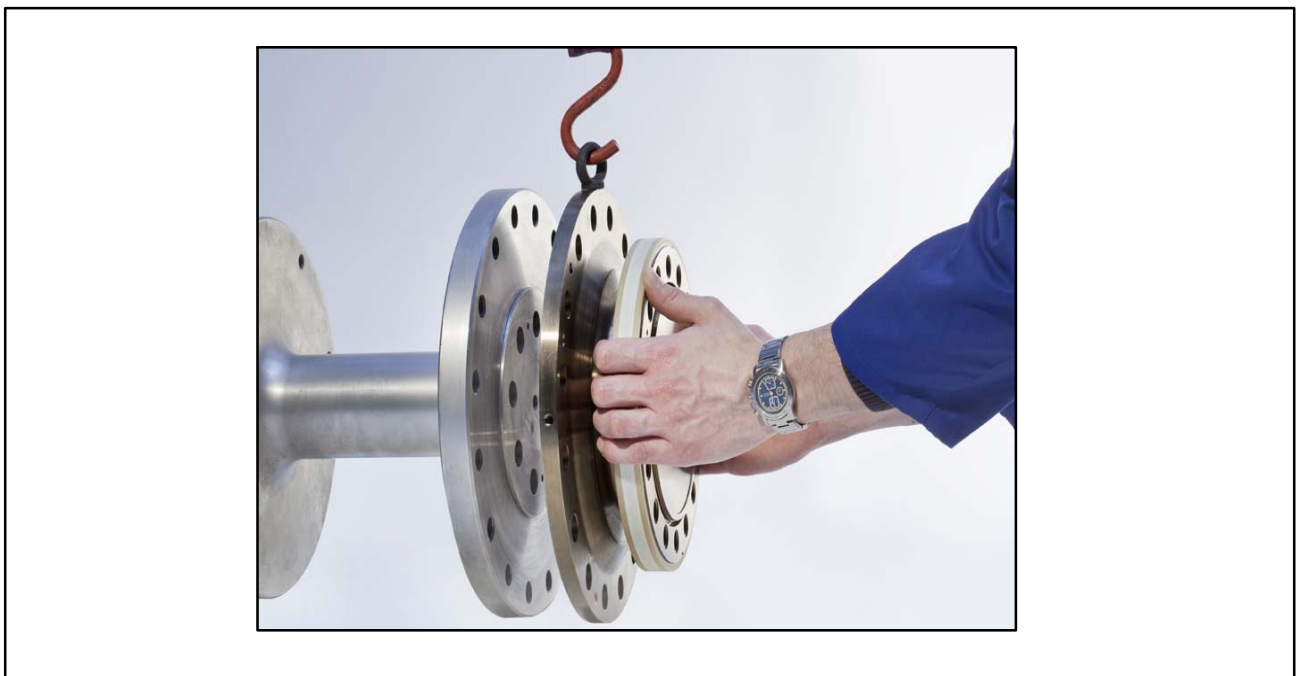

Fig. 4.3: Rotor installation (horizontal)
3. If the rotor is to be installed horizontally as shown in Fig. 4.3, remove *one* mounting eye bolt. Both mounting eye bolts can initially remain in the flange for vertical installation.